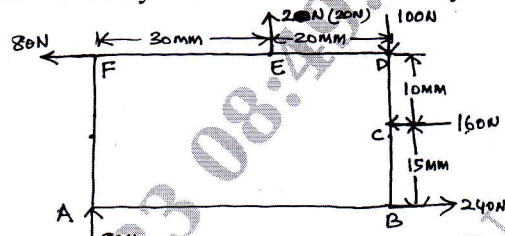

Fig.Q6(b)
b. Find the resultant for given "Force System" and comment on your result. Refer Fig.Q6(b).